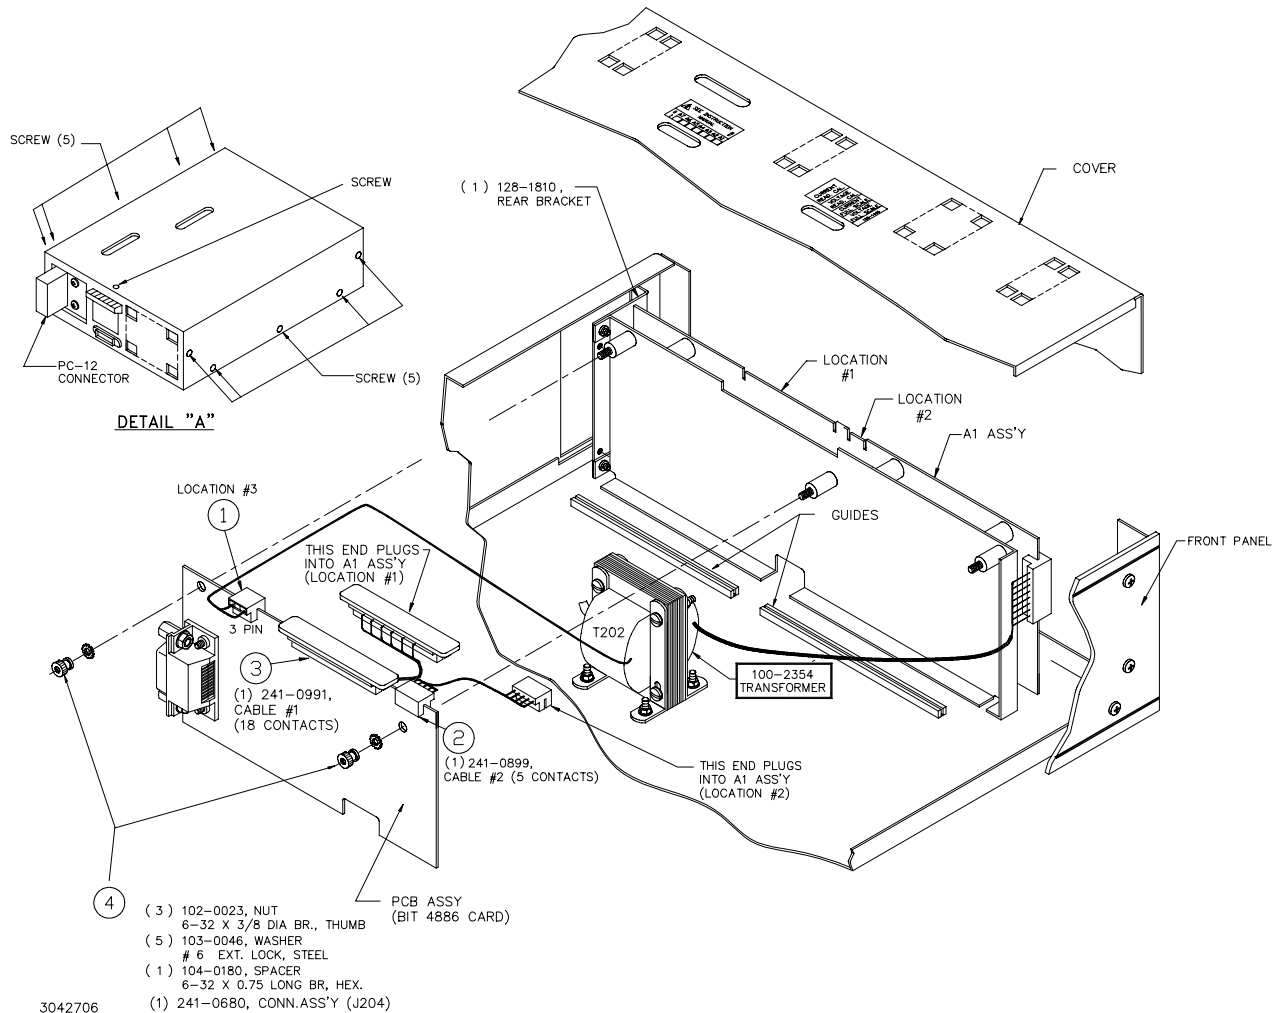

FIGURE 1. BIT CARD REMOVAL
2. Remove BOP cover by removing 11 screws: (five from each side and one from the top (see Figure 1, Detail A).
3. Remove the BIT 4886 Interface card from the BOP as follows (See Figure 1):
NOTE: Numbers in circles of Figure 1 refer to numbered steps below:
2. Connect GPIB cable from the rear of the BOP to a Microsoft Windows-based computer with National Instruments VISA software installed to BIT 4886 card and verify that BOP has standard PC-12 connector installed (Figure 1).
NOTE: PC-12 connector (See Figure 1) must be installed for BOP to function.